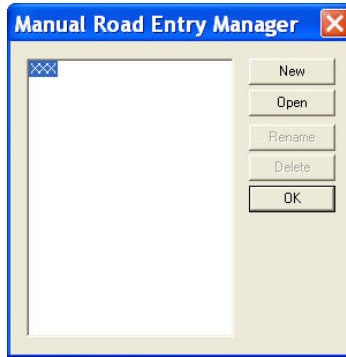

Figure 13-2. Manual Roads Entry
1. Click **Design ▶ Roads ▶ Manual Road Entry**. The *Manual Road Entry Manager* dialog box appears (Figure 13-2).